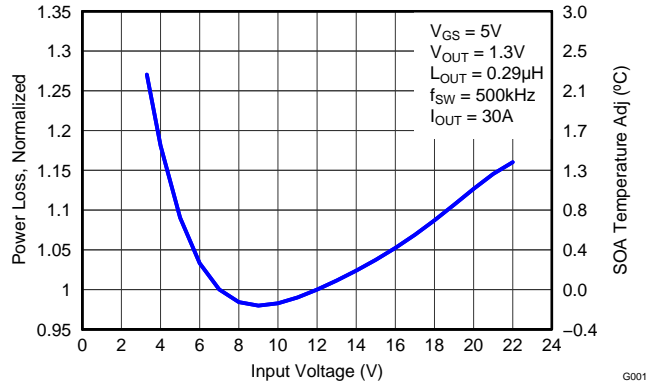

Figure 6. Normalized Power Loss vs Input Voltage
- Normalized Power Loss for input voltage \approx 1.18 (Figure 6)
- SOA adjustment for input voltage \approx 1.5°C (Figure 6)